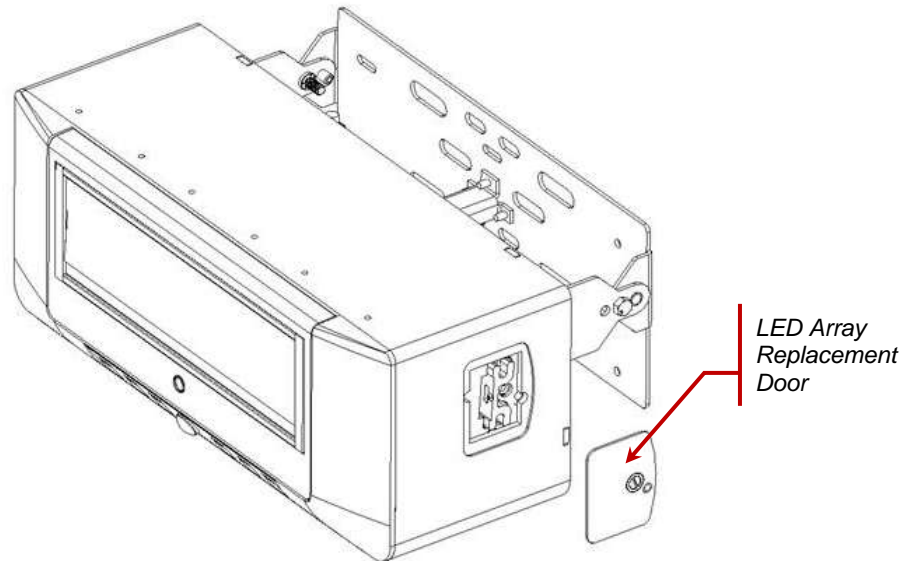

Figure 14 LED Replacement Door Removed
3. With a small flat head screwdriver, unscrew the bolt on the LED replacement door and remove the door. Refer to Figure 14.